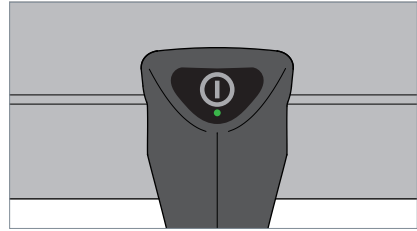

Fig. 7: Key.
- ▶ Press the key, see Fig. 7
- ▶ Press the key and keep it depressed, see Fig. 7.